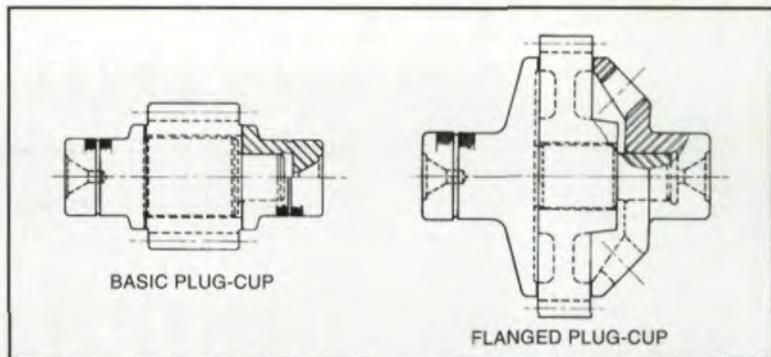
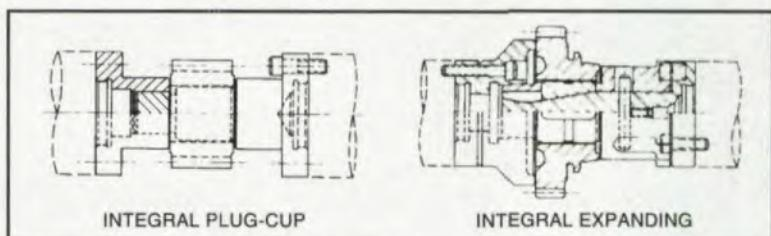

Fig. 15 - Typical hardened and ground work-holding arbors.
Fig. 16 - Integral work-holding arbors.
**Gear.** The work gear should be shaved from the same locating points or surfaces used in the preshave operation. It should also be checked from these same surfaces. Locating faces must be clean, parallel, and square with the gear bore. Gears with splined bores may be located from the major diameter, pitch diameter, or minor diameter. When shaving from centers, the true center angle should be qualified and the surfaces should be free of nicks, scale, and burrs. Locating points of work arbors and fixtures should be held within a tolerance of 0.005 mm (0.0002"). The arbor should fit the gear hole snugly. Head and tailstock centers should run within 0.005 mm (0.0002") for dependable results. Gears should be shaved from their own centers whenever possible. If this is not possible, rigid, hardened, and ground arbors having large safety centers should be used (Fig. 15). Integral tooling is another popular method of holding the work piece, especially in high production. This consists of hardened and ground plugs, instead of centers, mounted on the head and tailstock (Fig. 16). These plugs are easily detached and replaced when necessary. They locate in the